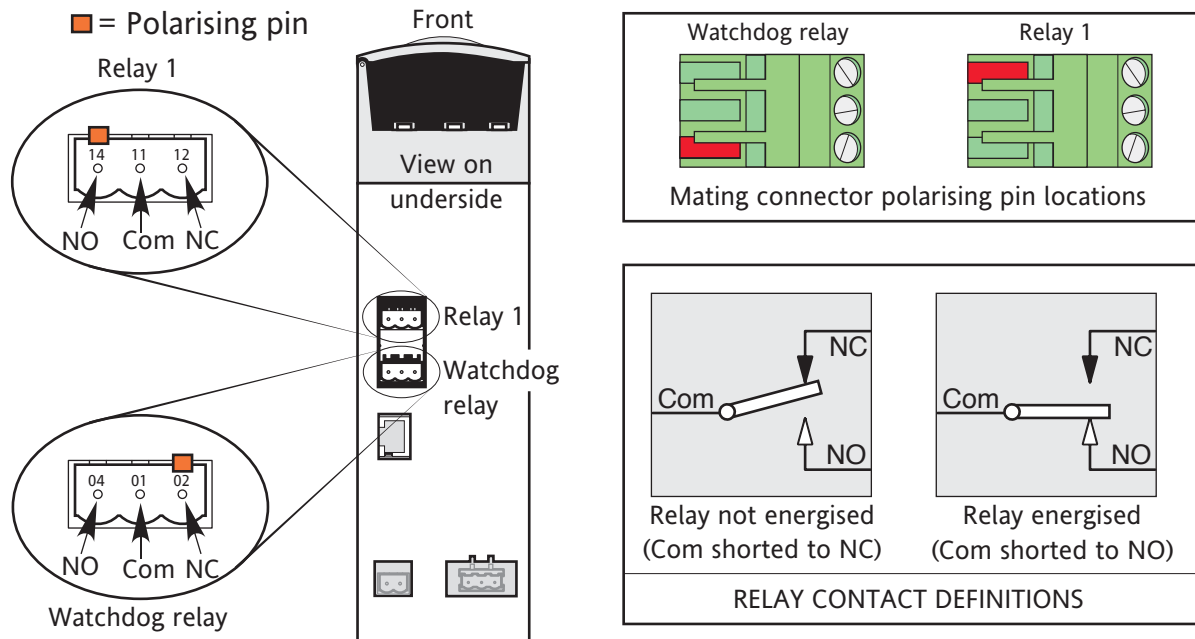

Figure 2.2.1d Relay connector location and pinout.
The 'watchdog' relay is wired to a connector on the underside of the Driver Module (figure 2.2.1d).
This relay, supplied as standard, is located adjacent to the watchdog relay (figure 2.2.1d). The energisation/de-energisation of the relay coil is under software control and is fully configurable by the user. The terms Normally open (NO) and Normally closed (NC) refer to the relay in its de-energised state. Up to three further relays are available if optional I/O Modules are fitted (see figure 2.2.1c).